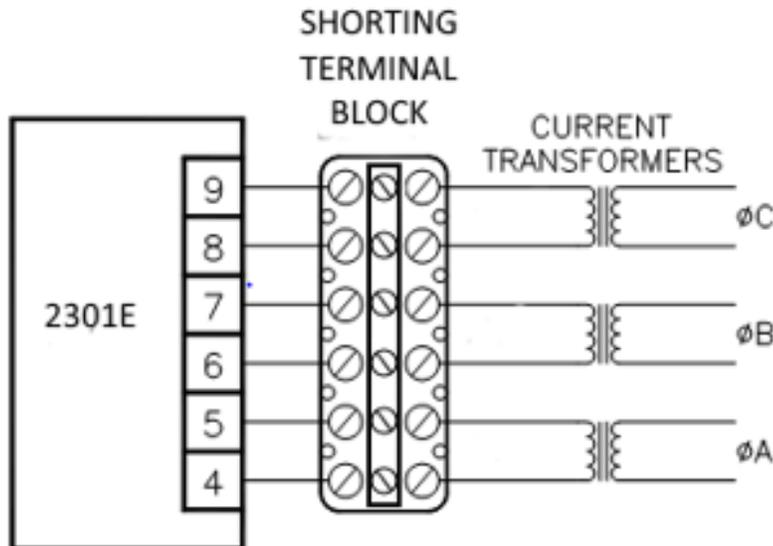

Figure 5-1. Temporary Wiring for Transformer Phase Correction
HIGH VOLTAGE—Never disconnect any wire attached to load sensor terminals 4 through 9 when the prime mover is running unless temporary 0.5 A, 20 W resistors are installed as shown in Figure 5-1, and all load is removed. The current transformers can develop dangerously high voltages when open circuited while the prime mover is running.
The Phase Correction Procedure requires that the prime mover be shut down many times to disconnect the current transformers or short the current transformers. Figure 5-1 is a typical recommended connections for current transformers.
HIGH VOLTAGE—The current transformers can develop dangerously high voltages. Do not disconnect a current transformer while the prime mover is running unless temporary 0.5 A, 20 W resistors are installed as shown in Figure 5-1, and all load is removed.
10. With the engine running at no load, idle speed; increase the gain one click at a time until a sustained speed oscillation is only just obtained. In between clicks, use the actuator bump feature to introduce a very small bump to the system (1% fuel demand, 0.020 seconds works well). The system oscillations will either die out in a short amount of time (stable), stay at the same amplitude for a long time (marginally stable), or keep increasing in amplitude (unstable). To start with, you will most likely be in the stable range, where the oscillations die out with time. As you increase the gain, you will eventually go into the unstable region, where you might need to switch back to 2nd dynamics to get the engine under control. Reduce the gain and switch back to 1st dynamics. Keep slightly adjusting the gain up or down until you find the setting that gives you the point of marginal stability. When you are there, the oscillations will neither decrease nor increase in amplitude. If you can maintain a constant amplitude for 30 seconds to a minute, you have found the point. If the oscillations die out, your gain is too low. If they keep getting bigger, your gain is too high. Adjust if required. The following trace (Figure 5-1) is an example. Write down the Gain setting (5.92 in this example) and call it K_u . This is needed to calculate final settings.